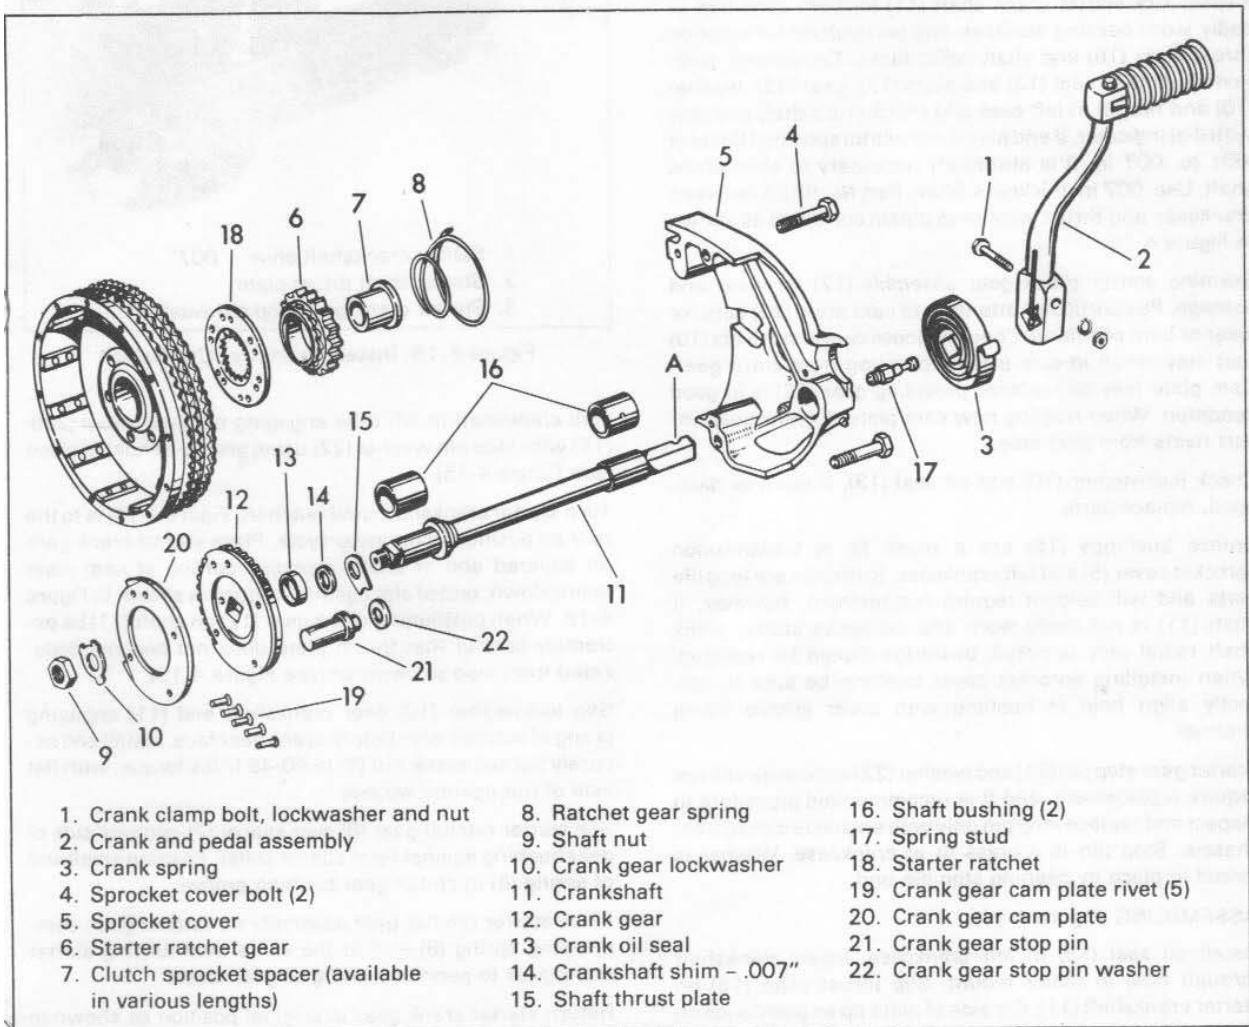
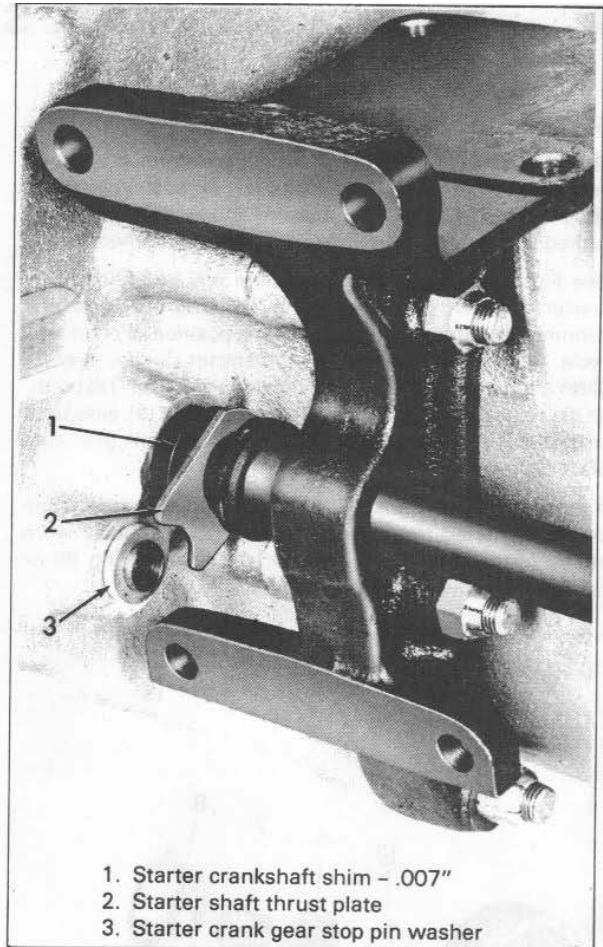
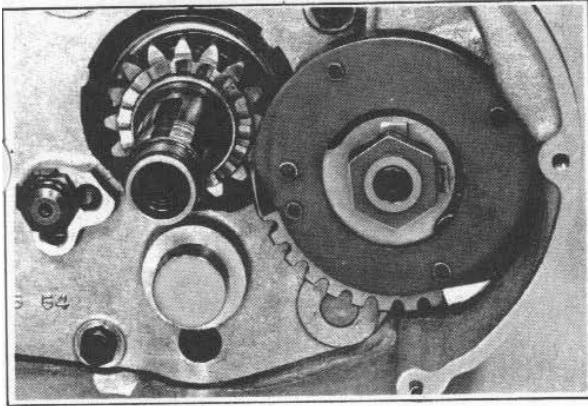

Figure 4-14. Kick Starter - Exploded View
Figure 4-15. Installing Starter Crankshaft
Figure 4-16. Positioning Starter Crank Gear on Starter Shaft
See Figure 4-14. A service problem will be indicated by starter ratchet gear ratcheting (clicking) with engine running, and starter crank upright as positioned on motorcycle. Ratcheting is caused by the starter ratchet gear (6) teeth making partial contact with starter ratchet (18) teeth, as the result of either a loose starter shaft nut (9), excessive crank shaft (11) end play or a loose starter crank gear cam plate (20).
DISASSEMBLING (Figure 4-14)
INSPECTING AND REPAIRING (Figure 4-14)
Inspect kick starter crank shaft (11) for bent condition or badly worn bearing surfaces and particularly for wear on thrust plate (15) and shaft collar faces. Temporarily position shaft (11), seal (13) and plate (15), gear (12), washer (10) and nut (9) in left case and check crankshaft end play with dial indicator. If end play is not within specified limits of .001 to .007 in. it is absolutely necessary to shim crankshaft. Use .007 in. thickness Shim, Part No. 6802, between crankcase and thrust washer to obtain correct fit as shown in Figure 4-15.
ASSEMBLING (Figure 4-14)
stall crankshaft in left case engaging notched thrust plate (15) with stop pin washer (22) using grease to hold in place (see Figure 4-15).
Turn starter crankshaft until notch (A, Figure 4-14) is to the rear as positioned on motorcycle. Place starter crank gear on squared end of shaft, recessed portion of cam plate facing down, end of slot against stop pin as shown in Figure 4-16. When positioning crank gear (12) on shaft (11) be extremely careful that thrust plate does not become dislocated from stop pin washer (see Figure 4-15).
Return starter crank gear to original position as shown in Figure 4-16, with ratchet gear held against cam plate by spring tension.
Slip spring (3) over squared end of shaft (11), end of spring and notch (A, Figure 4-14) up as positioned on motorcycle. Using a screwdriver rotate spring clockwise and engage with stud (17). Install bolt, lockwasher and nut (1).